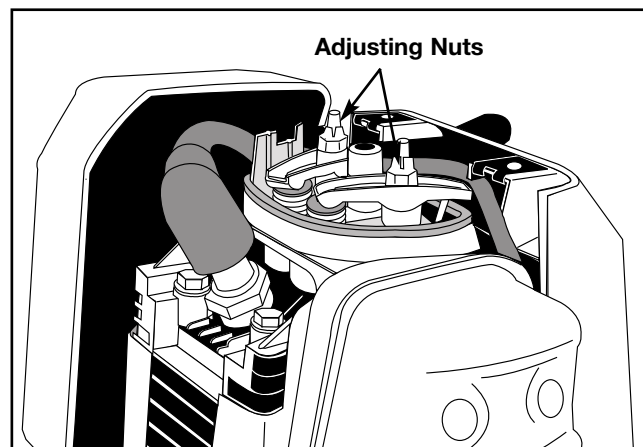

Fig. 52
- Turn the adjusting nut (Fig. 52), using an 5/16 in (8 mm) wrench or nut driver.